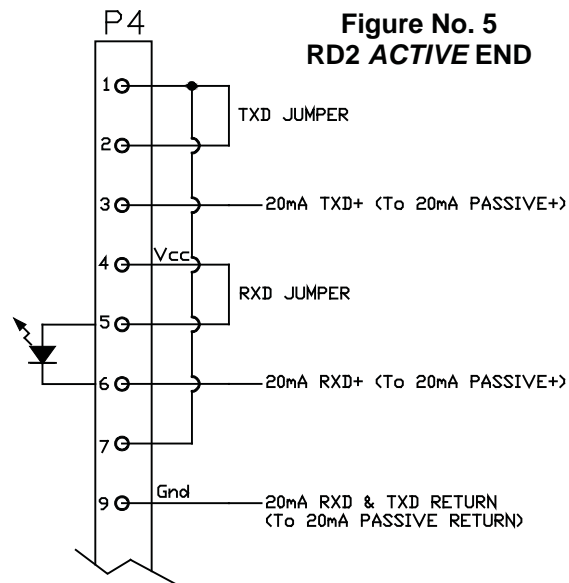

Figure No. 5
3. For *ACTIVE* connections, refer to Figure No. 5, the table below, or the circuit board for the terminal connections and connect each wire to the terminal block.